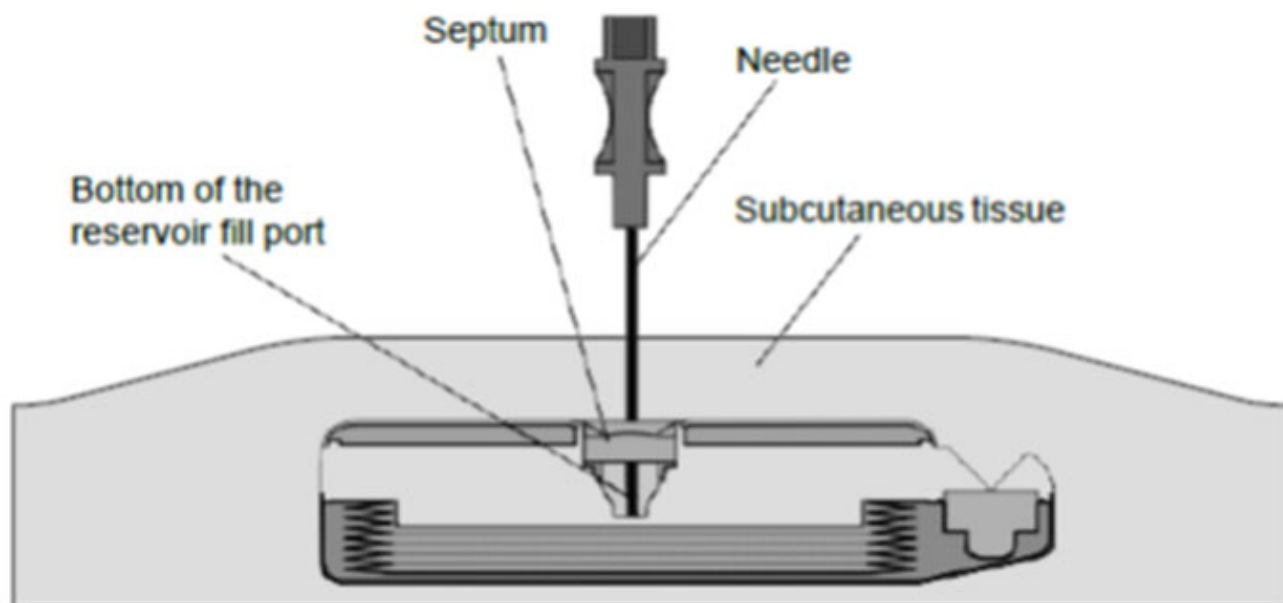

Figure 6. View inside of a SynchroMed programmable pump while the needle is fully and properly inserted.
4. Gently insert the 22-gauge noncoring needle into the center of the reservoir fill port until the needle touches the bottom of the reservoir fill port (Figure 6).